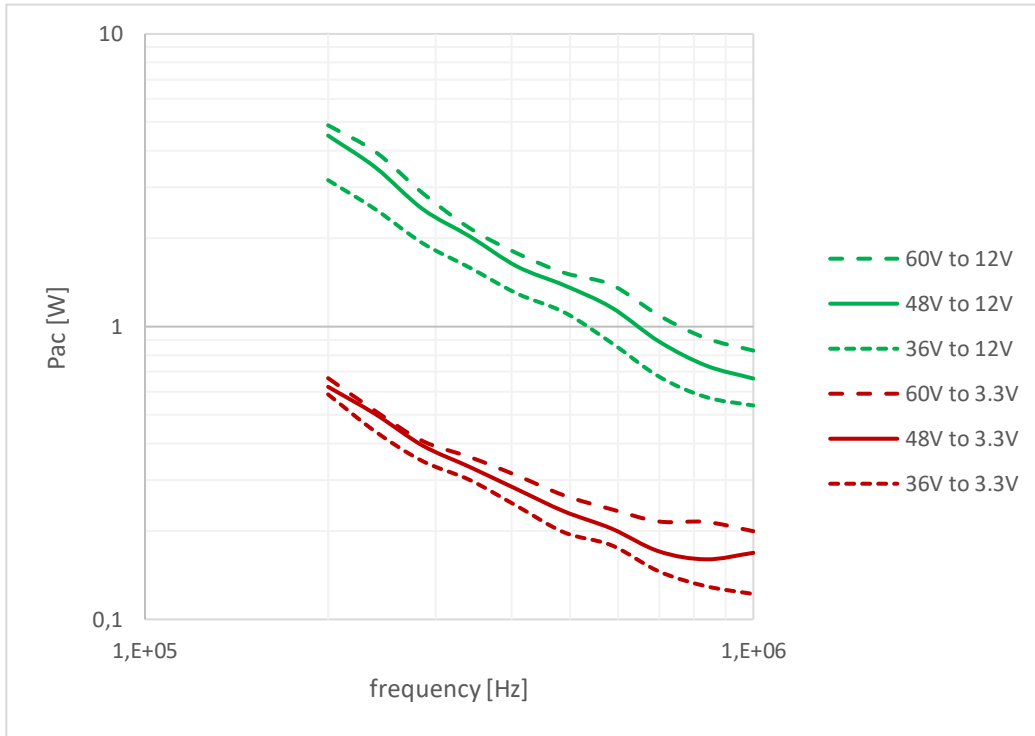

Figure 9: AC losses of the power inductor on the EVB in a few typical conversion ratio applications.
6. Connect fan supply cable to “Fan supply” header, labeled accordingly in Figure 9.
1. Setup jumpers like in Figure 9